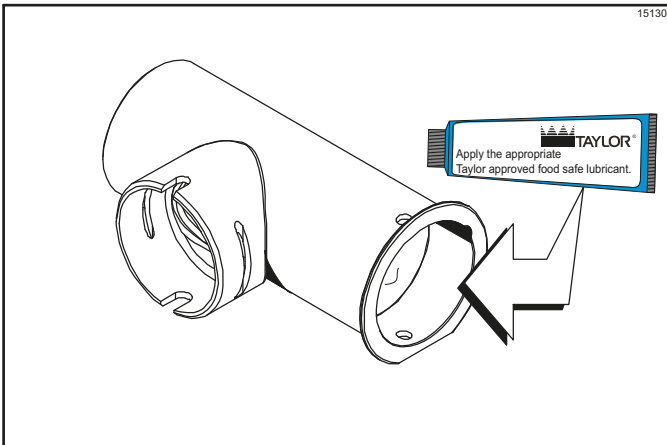

Figure 6-22
3. Apply a thin layer of lubricant to the inside of the pump cylinder at the retaining pin hole end. (See Figure 6-22.)